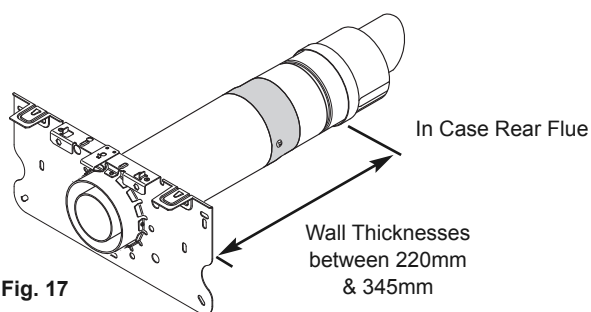

Fig. 17
1. For more detail on in case rear flue (Fig. 17) see Section 6.1.2. This flue accommodates wall thicknesses between 220mm & 345mm.